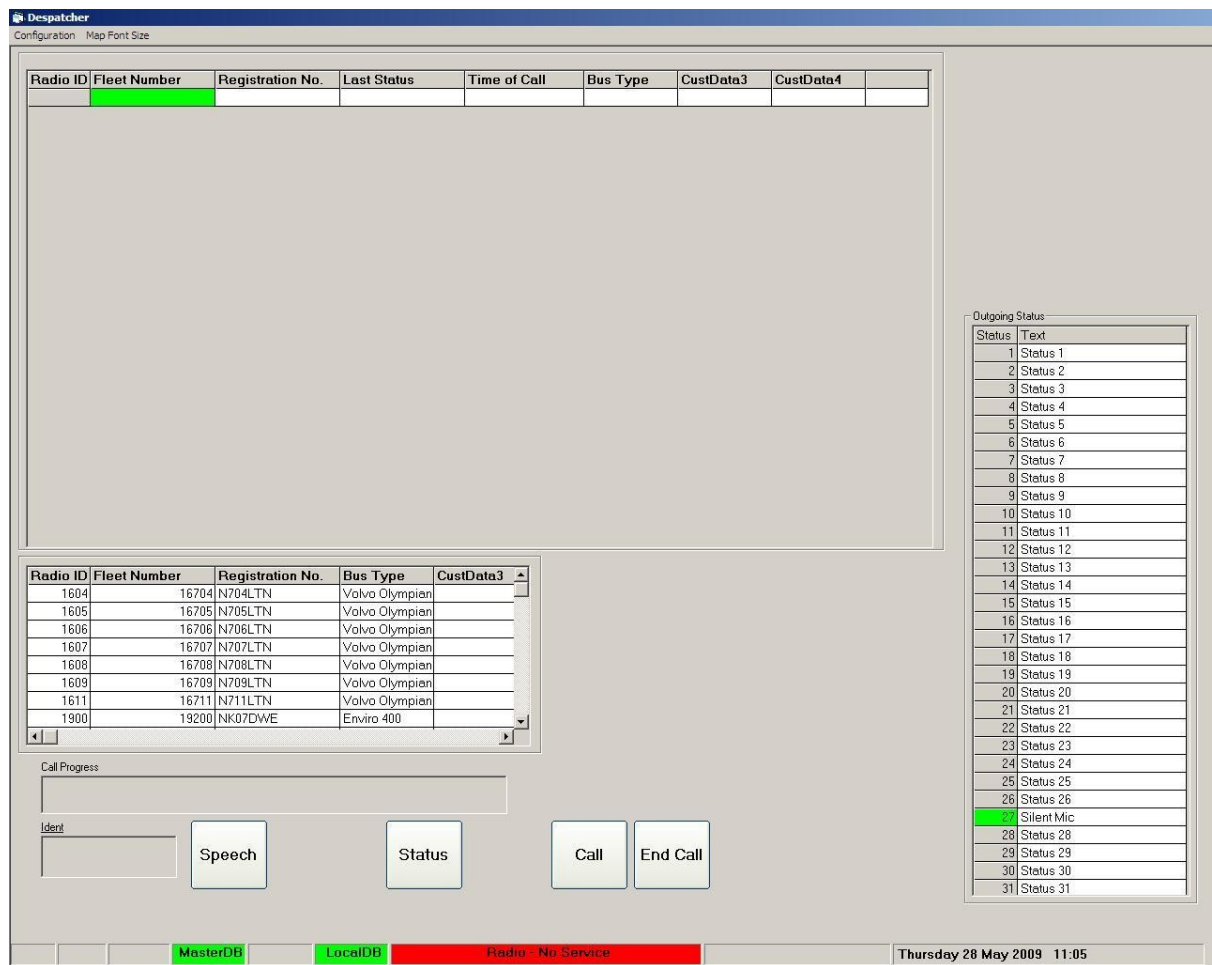

Fig. 7 Outgoing Status Messages –Selection column
- b) Using PC mouse and selecting the Status button will bring up the Status message list. By selecting Status 27 message and pressing Call will connect to the vehicle radio. **(See Fig. 7 on next page)**
4.3.1 Radio Despatcher Operator Screen (Fig 7)
Fig 7 shows the operator screen which the first screen to open when the Despatcher Program is opened on the PC. This screen gives access to all the functions provided in the system and the default opening window is for Voice Call operation.